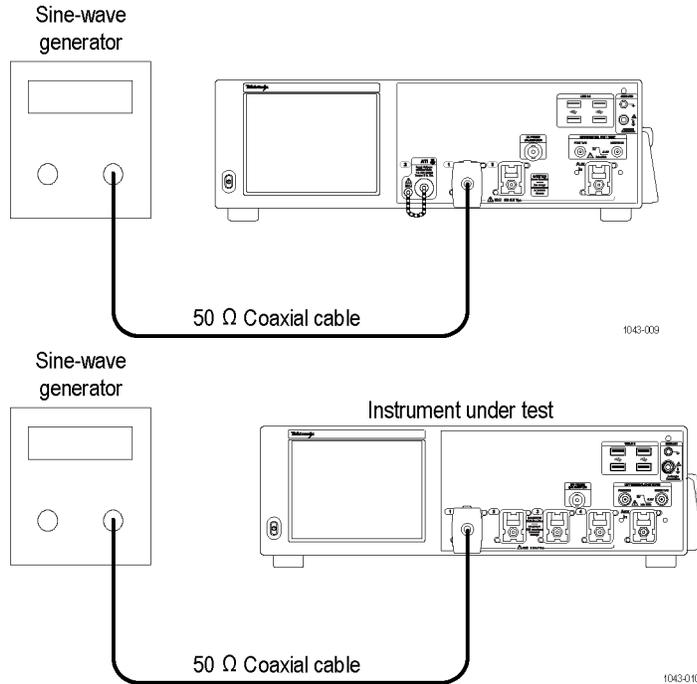

Figure 25: Timebase and delay time second test hookup
- b. *Hook up the test-signal source:* Connect the output of the sine wave generator to the **CH1** input. (See Figure 25 on page 158.)